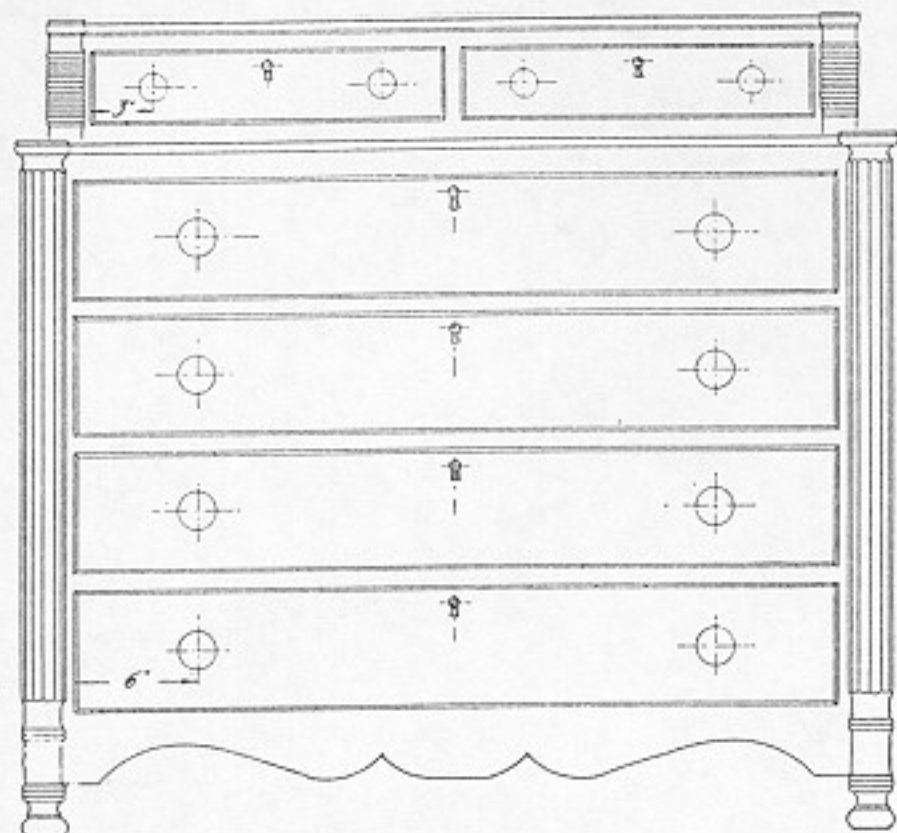

Fig. 306. Locating locks and knobs.
is laid out from the edge of the door or drawer on the center line marked (Fig. 306).
2. The position of knobs or handles is located on a chest of drawers by first drawing horizontal center lines on both sides of the drawer fronts. The distance from the sides of the drawers then is measured, usually from 3 to 6 in. on the center lines (Fig. 306). For handles, usually two holes are needed. A knob is placed on a cabinet door on the horizontal center line and quite close to the edge of the door, depending upon the size of the knob as well as that of the door.